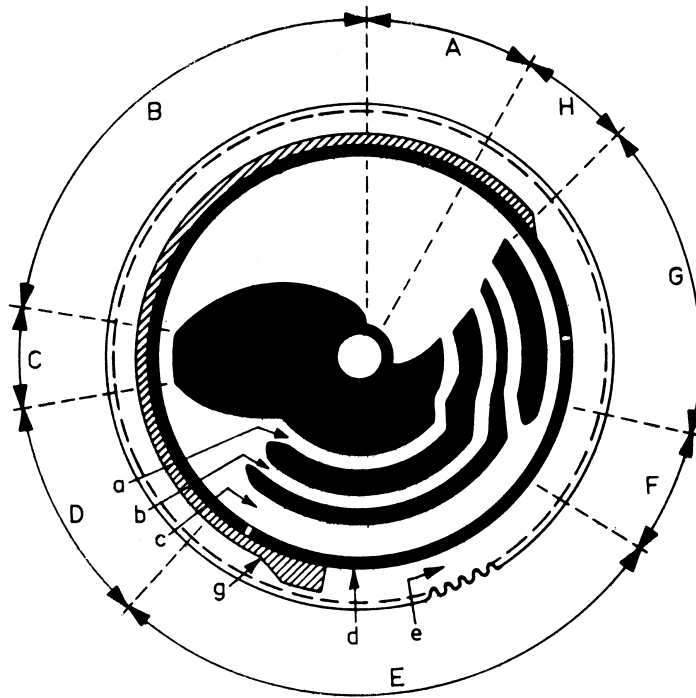

Fig. 1
Roller item 105 is cleared from the stop in the bottom of the command disc (Fig. 2, item H), so that plate item 103 turns anti-clockwise and drive wheel item 101 remains positioned against the motor spindle. The pick-up arm is now lifted by means of the cam on pick-up arm lift item 90, which is pulled against the bottom of the command disc by spring item 91. The pin of plate assy. item 88 runs in the upper side of the command disc and guides the pick-up arm so far inwards that the diameter scanner on the pick-up arm touches the edge of the record. Thus the cocking diameter for the various records is determined and the pin of plate assy. item 88 will run in one of the slots a, b or c (Fig. 1) of the command disc for 17.5, 25 or 30 cm records respectively.
Selection of the correct diameter is effected by means of bracket item 309 and spring item 89 which couple bracket item 309 to plate assy. item 88. A tag on bracket item 309 hits collar d (Fig. 1) on the command disc during the inward movement of the pick-up arm, so that bracket item 309 is pushed inwards. As a result spring item 89 will pull plate assy. item 88 and the pick-up arm mounted on it, further or less far inwards. When the pick-up arm is not retained the smallest diameter will always be selected.
At the end of slots a, b or c the pick-up arm is moved slightly further inwards for diameter correction, because the diameter scanner and the stylus point are not located at the same diameter (see Fig. 1, item F). Roller item 105 now engages the stop (Fig. 2 item H), so that rotary plate item 103 turns back and drive wheel item 101 is lifted off the motor spindle. The command disc is now stopped. The cam on bracket item 88 is also moved out of groove a, b or c, so that bracket item 88 with the pick-up arm can move freely. At the same time the cam on pick-up arm lift item 90 is pressed down by the bevelled edge on the command disc. The pick-up arm is lowered onto the record and the record player is in the position for playing (Fig. 1, item H).
The pick-up arm is lifted by the collar on the command disc after which it is moved outwards (item B, Fig. 1).
After changing the last record, pin item 85 from the loading arm drops onto tilting bracket item 304 and presses this bracket down. As a result pin item 303 of tilting bracket item 304 is pushed into track e (Fig. 1) at the top of the command disc. When this pin returns to point g (Fig. 1) bracket item 304 will press back bracket item 74. Bracket item 74 releases the idler and also switches off the mains switch. Simultaneously the command disc moves back to its stop position.